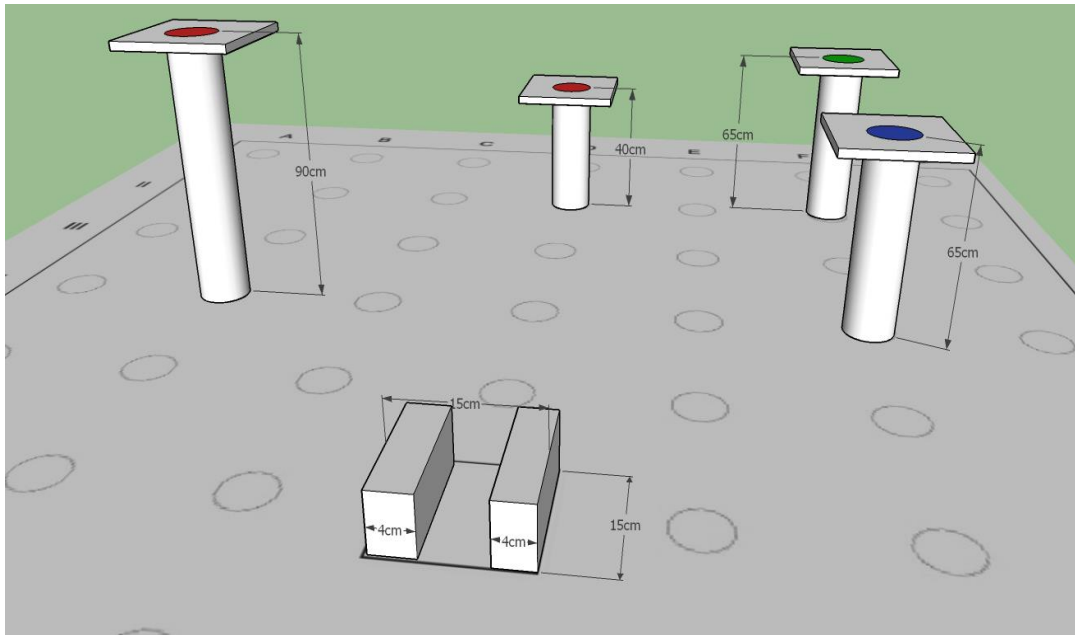

Figure 4: Plant Stem
- Plant Stems are of 3 fixed heights – 40cm, 65cm and 90cm. Refer Figure 4.